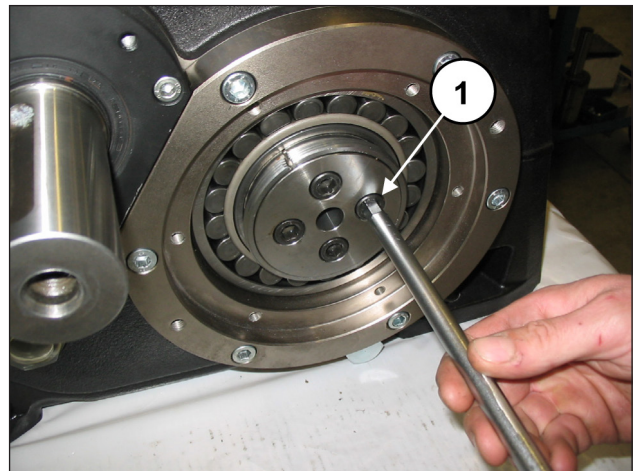

Fig. 88
Screw the two bush locking flanges onto the crankshaft using 4+4 x M12x25 screws (pos. ①, Fig. 88).